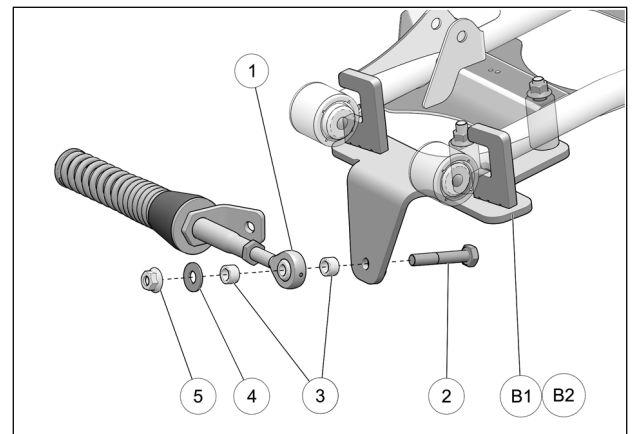

Fig. 7
8. Attach the rear suspension stabilizing rod (**1**) to anchor plate (**B1-B2**) using M10x60mm bolt (**2**), straight bushings (**3**), washer (**4**) and nut (**5**). Torque to 70 N•m [52 lb•ft]. See Fig. 7